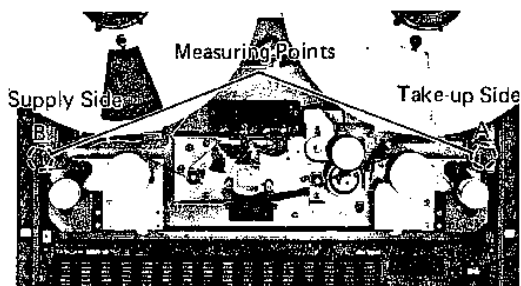

FIG. 18. TAPE TENSION MEASUREMENT POINTS
3. Using a tension analyzer or tentelometer, measure take-up tension at test point A and back tension at test point B (Fig. 18). Both readings should be 70 ± 5 g. If not, adjust R2 (for take-up tension) and/or R1 (for back tension). Refer to Fig. 19 for locations of adjustment resistors.
2. Run the tape in F.FWD and read the tension analyzer or tentelometer at the B point shown in Fig. 18. Similarly, run the tape in REW and read the tension analyzer or tentelometer at the point A shown. Specifications (both in F.FWD and REW) are 60 ± 5 g. If necessary, adjust the following resistor(s):